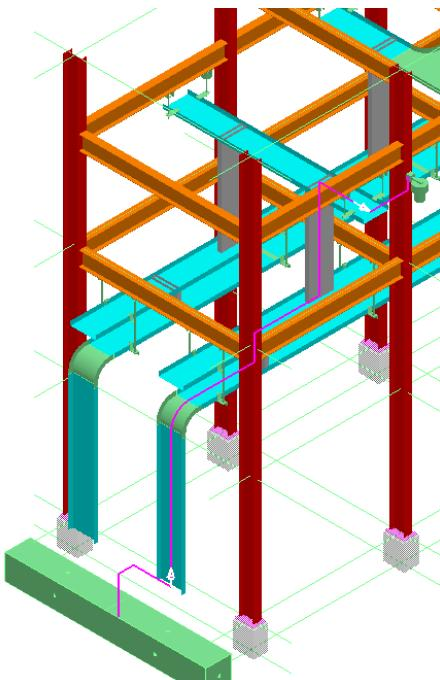

Figure 38: Proposed Contiguous Cable Path - CBL-001A
16. The SP3D displays the proposed contiguous cable path for the cable, as shown in the highlighted section of Figure 38.